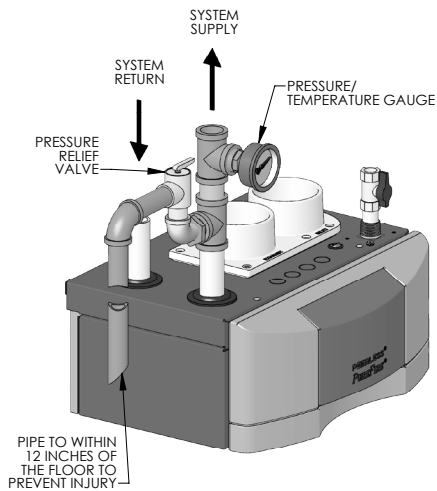

Figure 4.2: Relief Valve Installation – PF-50, PF-80, PF-110 & PF-140
- Pressure/Temperature Gauge:** A combination pressure/temperature gauge is provided with each *PUREFIRE*® boiler to be mounted in the piping from the boiler supply to the system as shown in Figure 4.2 & 4.3. Most local codes require this gauge.
The valve is to be installed as shown in Figures 4.2 or